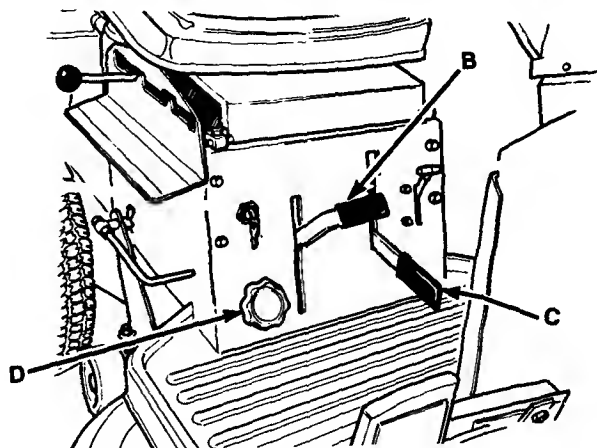

Fig. 30
1. After performing the interlock system test on your riding mower, you are now ready to begin actual mowing. Put mower lift lever (B, Fig. 30) up into the raised position, and put the mower blade drive lever (C) down into the disengaged position while transporting your riding mower to the work area.